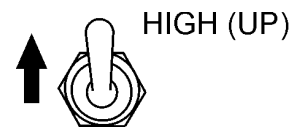

Figure 61. Engine Speed Switch (High)
3. Place the **engine speed switch** (Figure 61) in the **HIGH** position